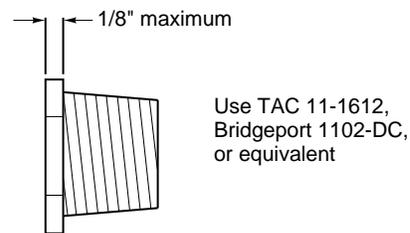
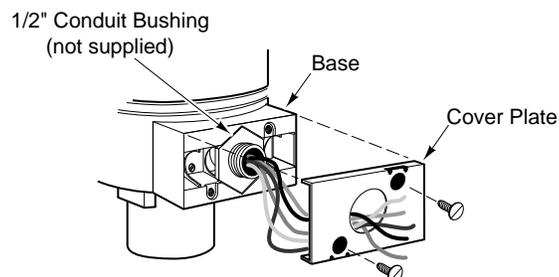

Figure-9 1/2" Conduit Bushing.
Figure-10 Conduit Bushing and Cover Plate Installation.
2. Slip the actuator's leads through a standard 1/2" conduit bushing (Figure-9, not supplied) and the knockout hole in the cover plate. Refer to Figure-10.
Note: As shown in Figure-10, the hole in the actuator's cover plate is also sized to accept both British standard M20 (20 mm) conduit connectors and 20 mm-to-PG16 adaptors for use with DIN PG16 connectors. (Follow the steps for installing the conduit box to the actuator.)